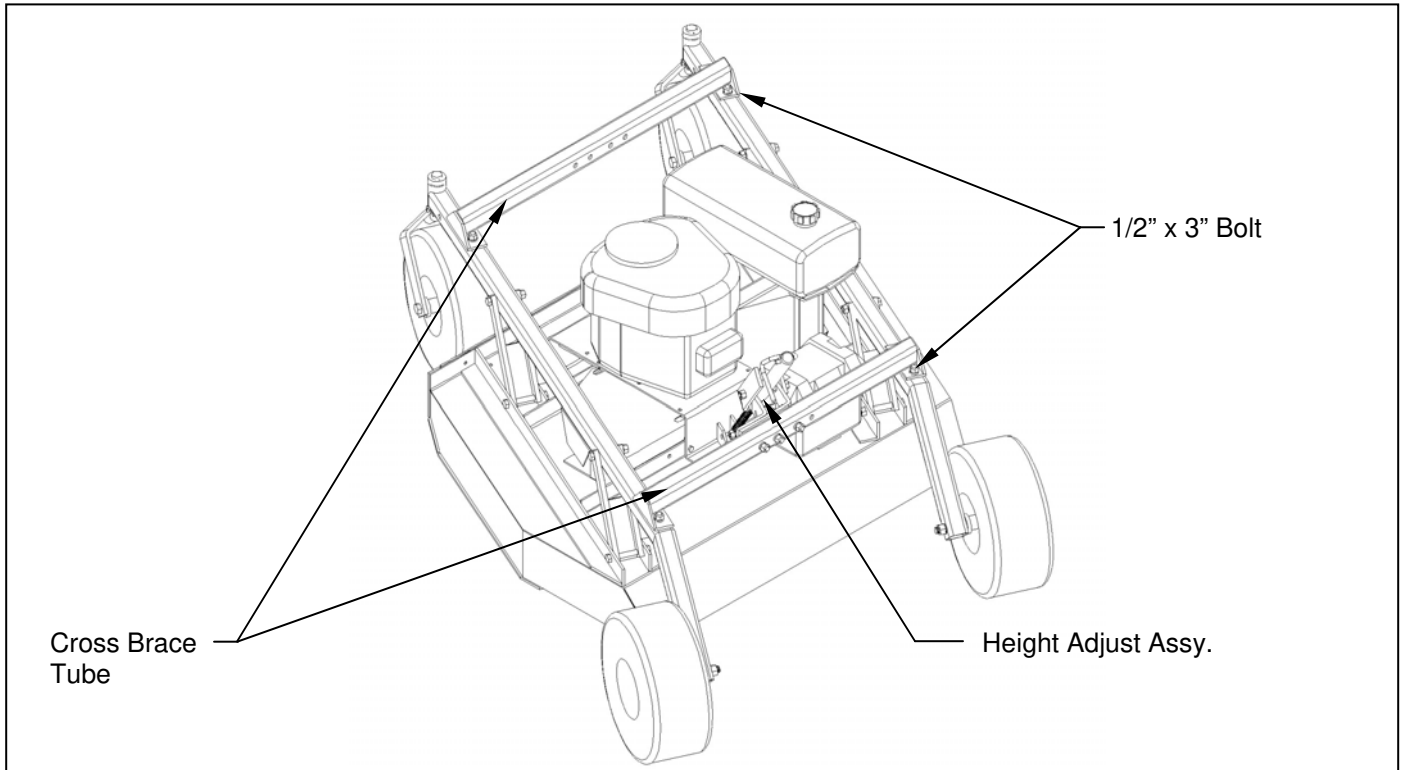

Figure 3: Cross Brace Tube Installation
2. Install the cross brace tubes on the carrier arms with the 1/2" x 3" hex head bolts, lock washers and nuts. Only hand tighten the hardware for this step. The support that has the height adjust assy. fastened to it needs to be placed on the rear location. Orientate the support such that the height adjust assy. hangs towards the engine. **See figure 3.**